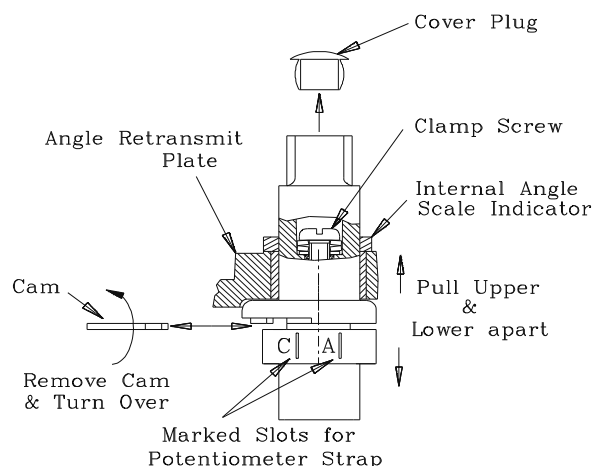

FIGURE 8. COUPLING
6.2.3 Release the potentiometer strap from the slot in the lower coupling, as shown in figure 8, remove the internal indicator from the coupling and withdraw the coupling from the retransmit plate.
6.4.3 Release the potentiometer strap from the slot in the lower coupling, as shown in Figure 8, remove the internal indicator from the coupling and withdraw the coupling from the retransmit plate.